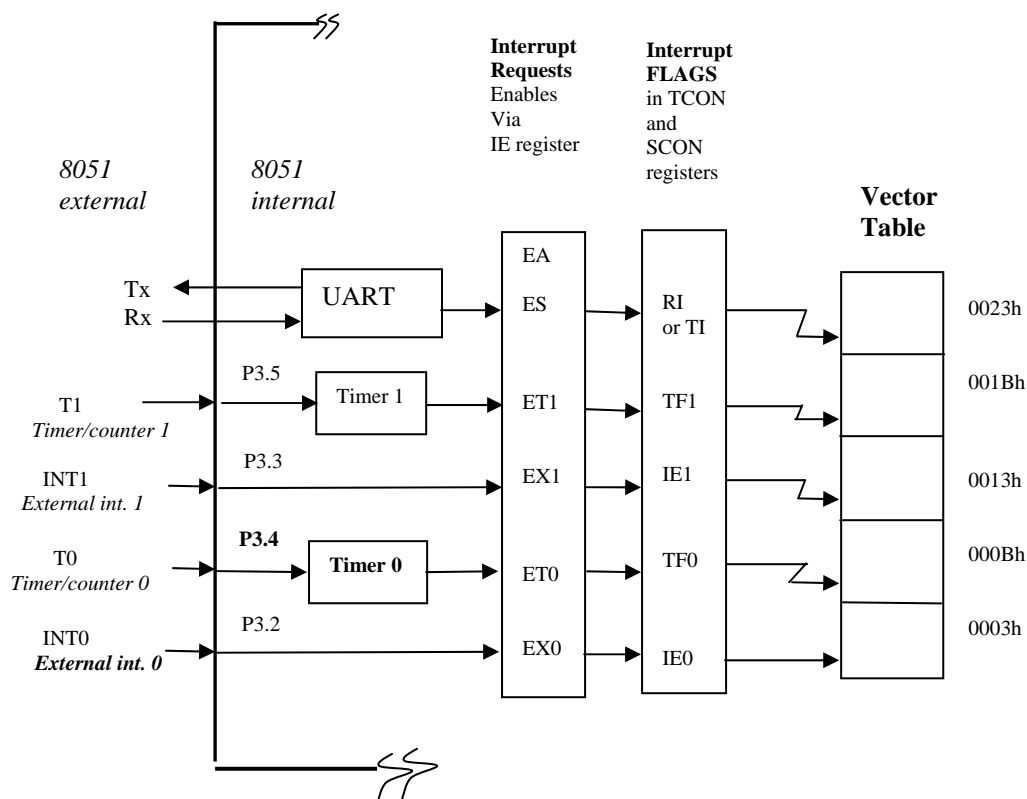

Figure 4.5 Interrupt sources
Figure 4.5 shows the set of 8051 interrupt sources. If we follow the external interrupt INT0, for example, we see that this external interrupt connects to the processor at the P3.2 pin. Note Port 3 can be used as a standard input/output port as shown earlier – but various Port 3 pins have alternative functionality. When INT0 is activated (negative edge usually), internally within the 8051 the EX0 request is raised. This flags an interrupt request but the relevant interrupt bit within the IE register must be set, along with the EA bit if this interrupt request is to raise an interrupt flag. The interrupt flag IE0 is then raised and causes the program counter (PC) to vector to vector location 0003h, as discussed earlier. Note, the Timer/Counter interrupt flags can be software polled even if the ETx bits are not enabled. Interrupts can also be software generated by setting the interrupt flags in software. The interrupt flags are accessible as flags on the TCON and SCON registers as follows: